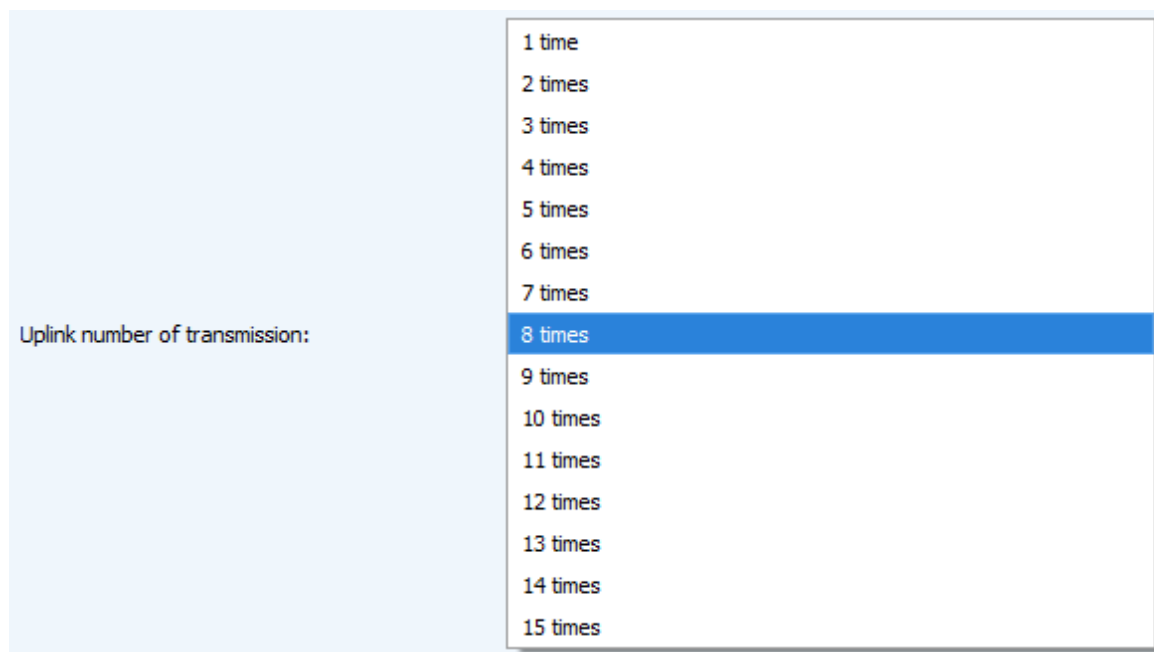

Figure 20 — Choice of the uplink number
3.5.2.7 «Uplink number of transmission» (not displayed in the "Simple" mode) – sets the number of uplink during the one communication session (fig. 20). if the "Confirmed uplinks" function is disabled, the